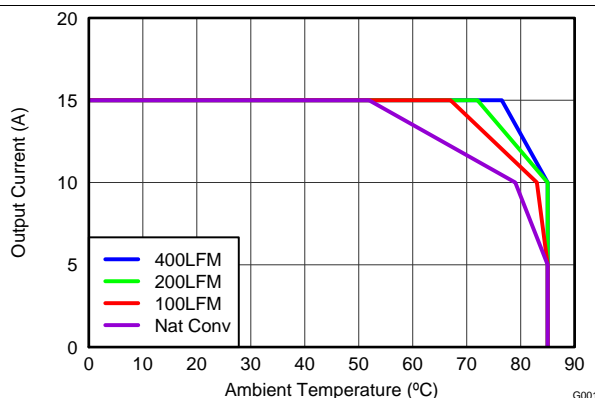
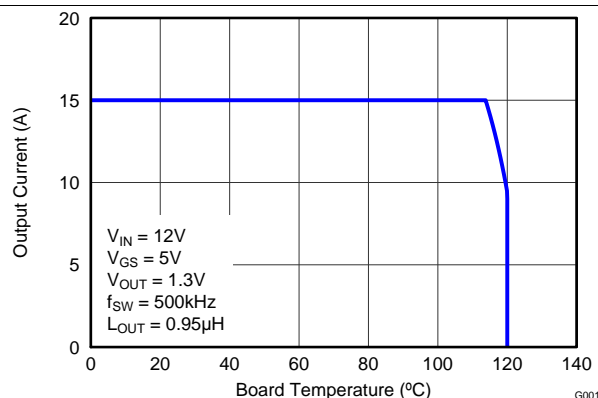

Figure 3. Safe Operating Area – PCB Horizontal Mount
Figure 4. Typical Safe Operating Area
$T_J = 125^{\circ}\text{C}$, unless stated otherwise. For Figure 3 and Figure 4, the Typical Power Block System Characteristic curves are based on measurements made on a PCB design with dimensions of 4 inches (W) \times 3.5 inches (L) \times 0.062 inch (H) and 6 copper layers of 1 oz. copper thickness. See Application and Implementation for detailed explanation.
$T_J = 125^\circ\text{C}$, unless stated otherwise. For Figure 3 and Figure 4, the Typical Power Block System Characteristic curves are based on measurements made on a PCB design with dimensions of 4 inches (W) \times 3.5 inches (L) \times 0.062 inch (H) and 6 copper layers of 1 oz. copper thickness. See Application and Implementation for detailed explanation.
The SOA curves in the CSD87381P data sheet provides guidance on the temperature boundaries within an operating system by incorporating the thermal resistance and system power loss. Figure 3 to Figure 4 outline the temperature and airflow conditions required for a given load current. The area under the curve dictates the safe operating area. All the curves are based on measurements made on a PCB design with dimensions of 4 inches (W) × 3.5 inches (L) × 0.062 inch (T) and 6 copper layers of 1 oz. copper thickness.